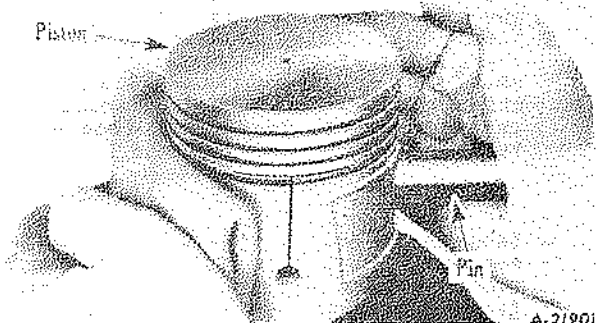

Fig. 40
1. With piston heated to approximately 200 degrees F., support connecting rod in vise, push piston pin into piston bosses while piston is hot (Fig. 40). When assembling piston on rod the slot in the piston skirt must be toward the side of the engine, which is camshaft numbered side of the connecting rod. Install piston pin retainers in piston at each end of pin, making sure that retainers seat fully and with tension in grooves. Test connecting rod and piston assembly on a connecting rod aligner and correct any misalignment.